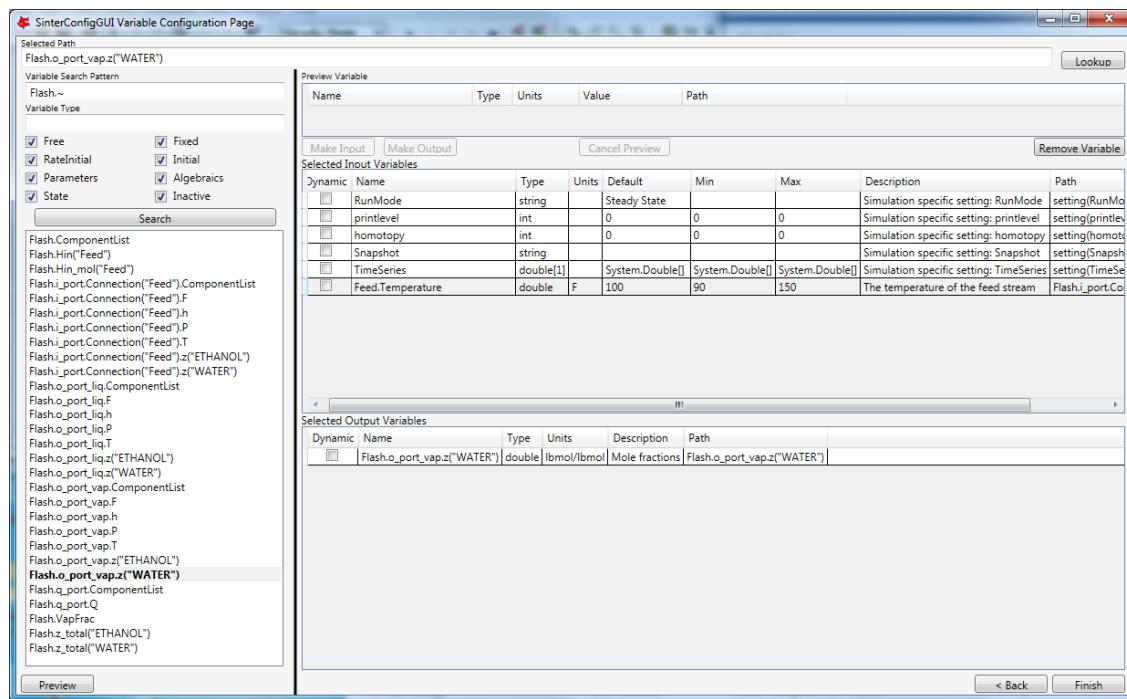

Figure 14: SinterConfigGUI Variable Configuration Page window, created output variable.
14. Click “Make Output.” This variable has a unit “lbmol/libmol” as shown in Figure 14.